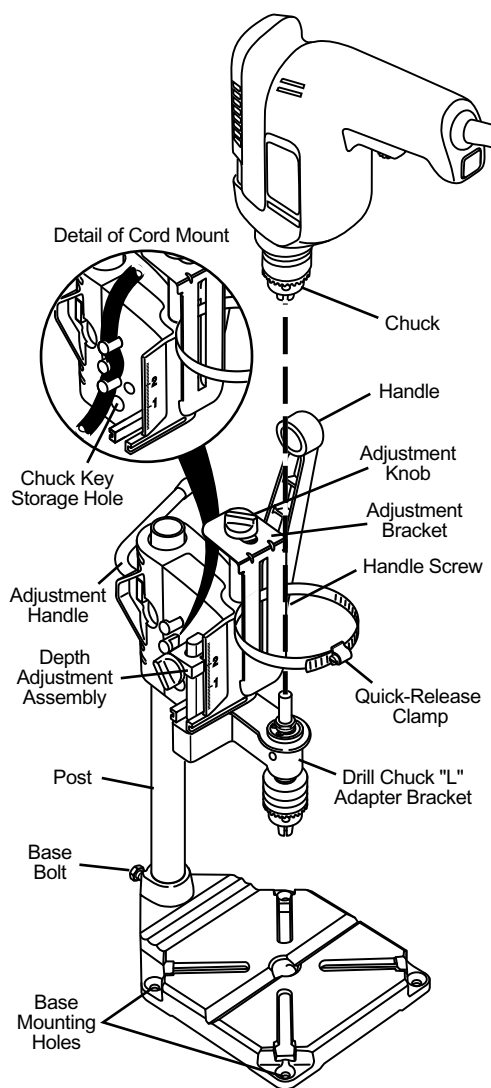

Figure 6
See Figure 6 for reference.
7. Route cord through the mount located on the head assembly. See Figure 6 inset.